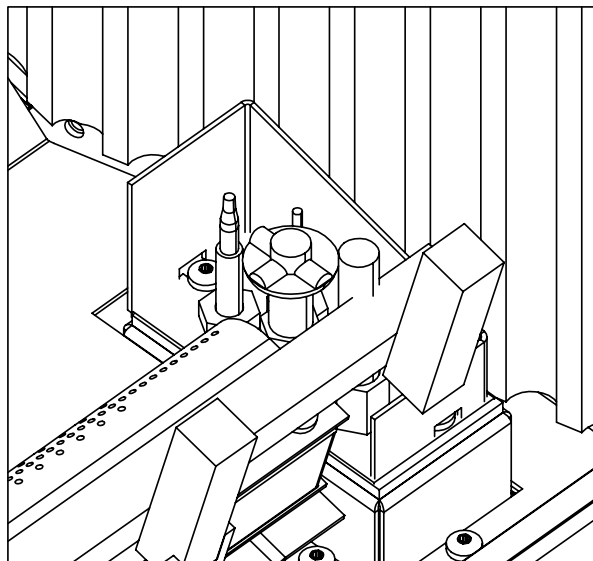

Figure 15. Pilot assembly beside the burner.
8. Reinstall the burner, fire grate, log set, and door. Also refer to SECONDARY INSTALLATION - FIRE GRATE AND LOG SET INSTALLATION in your Owner's Manual. When re-installing the burner, ensure that the burner to pilot hood and shield relationship is similar to what is shown in Figure 15.